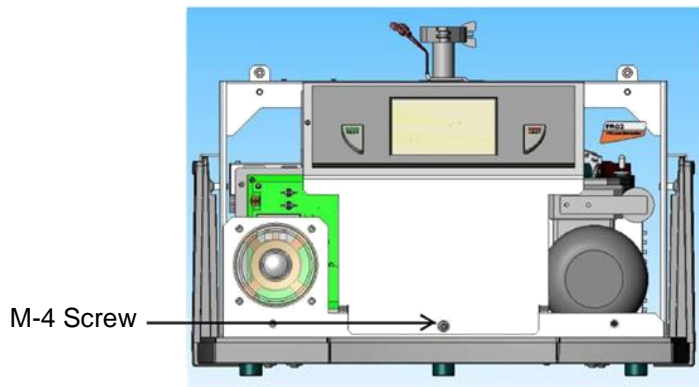

Figure 6: Front Panel Removal
12. Remove M4 screw (“Figure 6: Front Panel Removal”) and open front panel to provide required room for installing the Flapper Box Wiring harness (VS only).
16. Reinstall the M4 screw (“Figure 6: Front Panel Removal”).